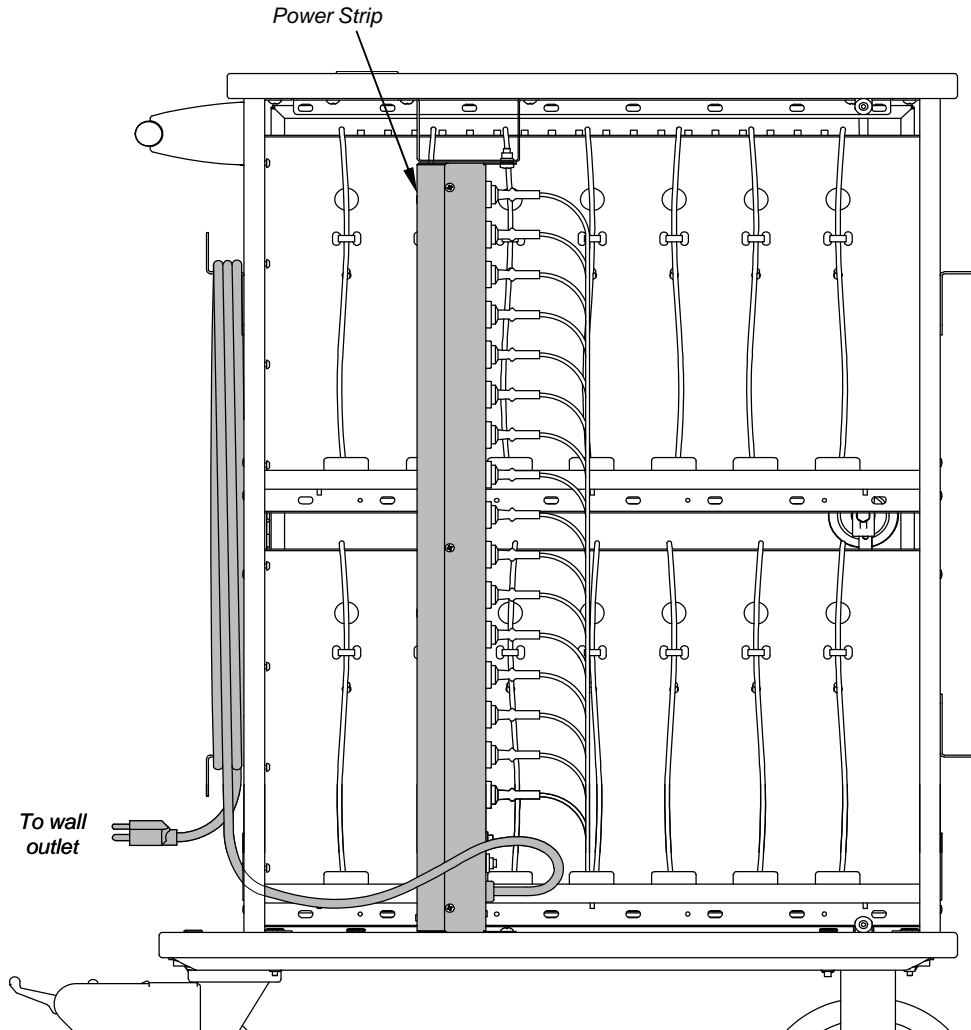

Figure 3
- With the power strip switch turned to the 'OFF' position, plug the power strip into a wall outlet. **Figure 3.**